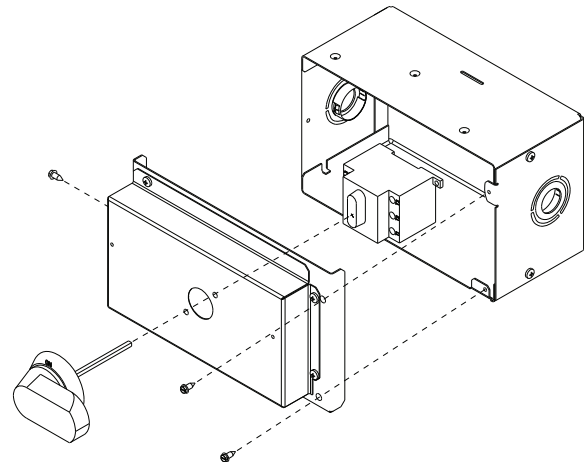

Fig. 27 — Handle and Shaft Assembly for NFD
2. Remove (3) hex screws on the NFD enclosure - (2) on the face of the cover and (1) on the left side cover. See Fig. 27.
10. Secure the handle to the painted cover with (2) screws and lock washers supplied.
11. Engaging the shaft into the handle socket, re-install (3) hex screws on the NFD enclosure.